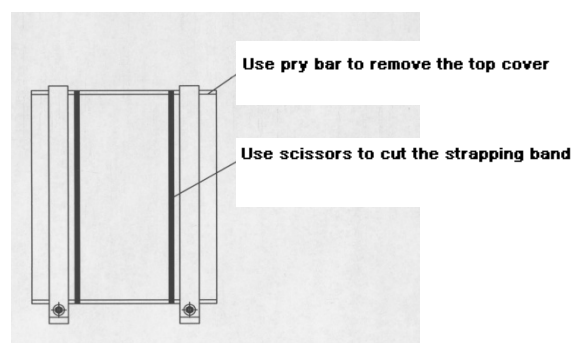

Figure 3-1 Remove Straps and Top Cover
1. Use the scissors to cut off the strapping bands securing the crate or box to the shipping pallet and remove them. Refer to Figure 3-1.
2. Use the pry bar to remove the top cover of the crate or box. Refer to Figure 3-1.